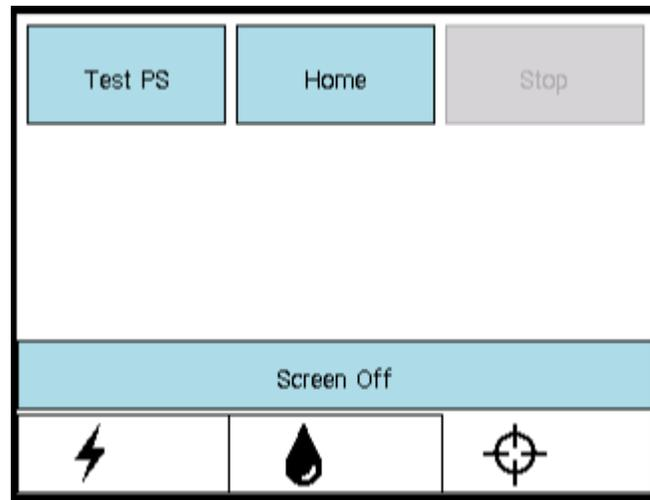

Figure 16: PSIB display - PS tab
- b. On the PSIB display, select the **PS** tab and click **Test PS** (Figure 16). The system will translate the PS forward and backward to test the continuity and functionality of the translation axis as well as home the PS in the translation axis. The system will also rotate the rotational axis clockwise and counter-clockwise to test the continuity and functionality of the rotational axis. This can also be done from the TDC *Setup* workspace in the PS information box in the bottom-right quadrant (Figure 17).